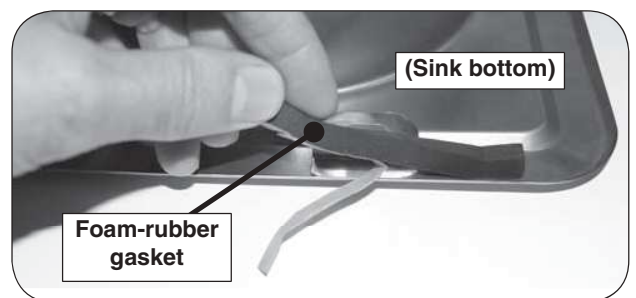

Fig. 1-3 Attach foam-rubber gasket
2. Attach the adhesive side of the foam rubber liner around the under side of the sink lip (see Fig. 1-3).